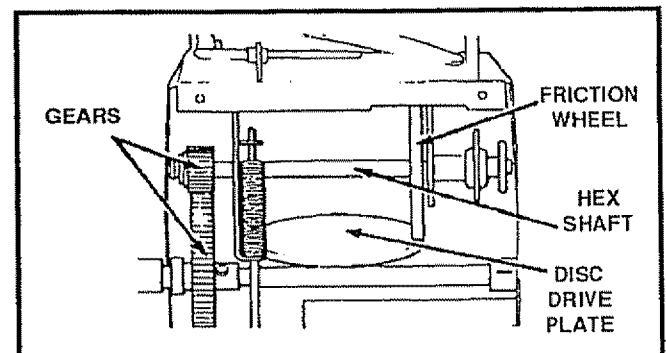

FIG. 17
- Hex Shaft and Gears - Hex shaft and gears require no lubrication. All bearings and bushings are lifetime lubricated and require no maintenance (See Fig. 17).
**NOTE:** For storage, the hex shaft and gears should be wiped with 10W-30 motor oil to prevent rusting (See Fig. 17).